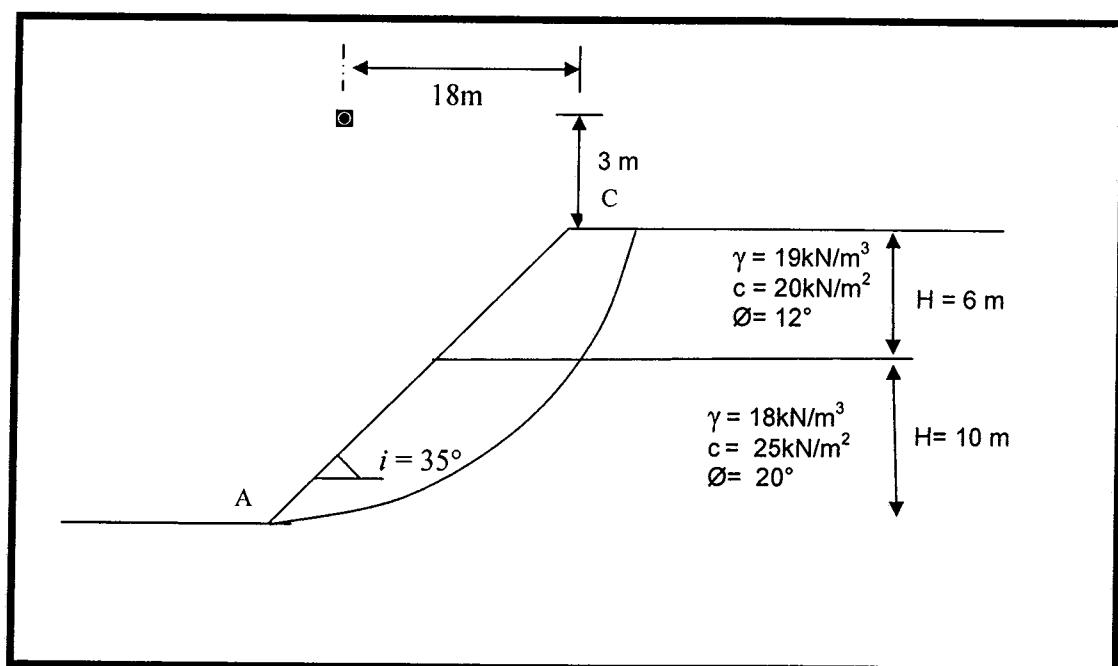

Figure 1
*Apakah **TIGA (3)** penyebab kegagalan cerun dan huraikan satu persatu sebab dan akibat kegagalan tersebut boleh terjadi?*
- (b) As for the slope shown in Figure 1, find the factor of safety against sliding for the trial slip surface AC. Use the ordinary methods of slices.
5. A footing is planned to support an ultimate load of 30MN (Allowable load is 10MN and Factor of Safety is 3.0). The footing will be embedded 2.0m below ground surface. The bulk density of earth material is 1600kg/m3 and the water table is very deep. Terzaghi's equation for ultimate bearing capacity,  $q_{ult}$ , for circular foundation is given by:  $q_{ult} = 1.3cN_c + 0.3B\gamma N_\gamma + qN_q$  while Terzaghi's equation for ultimate bearing capacity,  $q_{ult}$ , for square foundation is given by:  $q_{ult} = 1.3cN_c + 0.4B\gamma N_\gamma + qN_q$ . (Refer Figure 1 and 2).